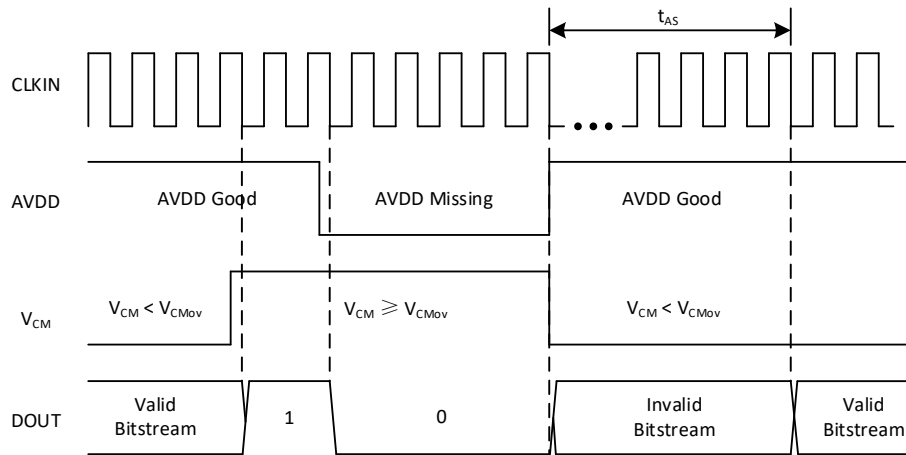

Figure 8.2 Fail-safe output
- When the undervoltage of AVDD is detected ($AVDD < AVDD_{UV}$), DOUT pin output a bitstream of all logic zeros, as shown in Figure 8.2.
- When the overvoltage of common-mode input voltage is detected ($V_{CM} > V_{CMov}$), DOUT pin output a bitstream of all logic ones, as shown in Figure 8.2.